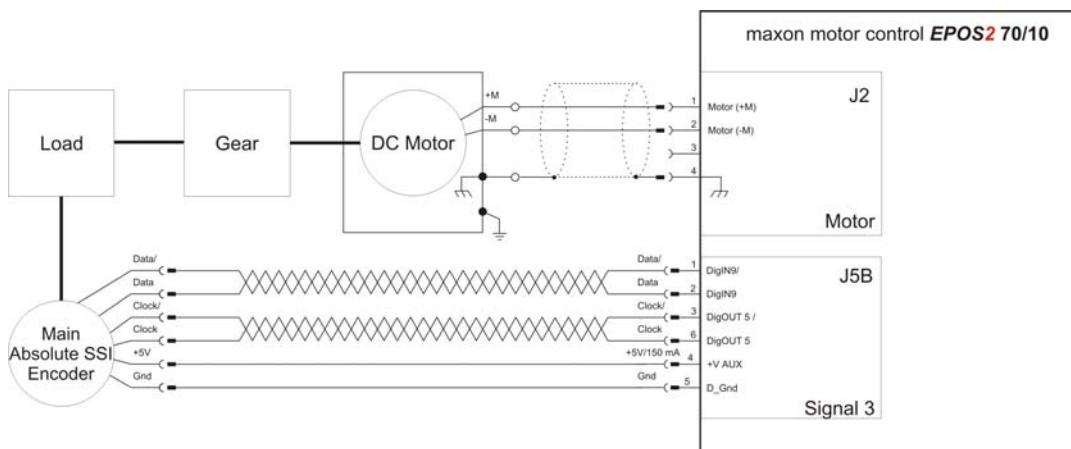

Figure 13-149 Example 1 – Wiring Diagram
- 1) Wire the system according to the wiring diagram (→Figure 13-149).